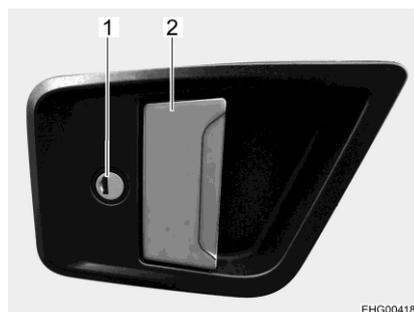

Fig. 40 Door lock (conversion door, outside)
- Insert the key into locking cylinder (Fig. 40,1) and turn until the door lock is unlatched.
- Pull on the door handle (Fig. 40,2). The door is open.
- Insert the key into locking cylinder (Fig. 40,1) and turn until the door lock is engaged.